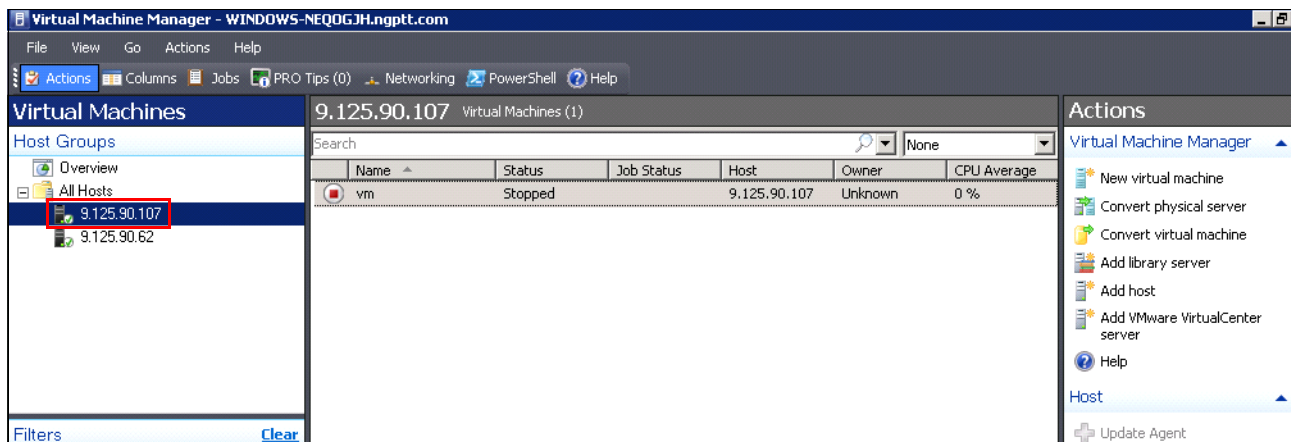

Figure 3-7 SCVMM main window after the host is added
7. After a short period, the destination server is added into the list of managed hosts, as shown in Figure 3-7.